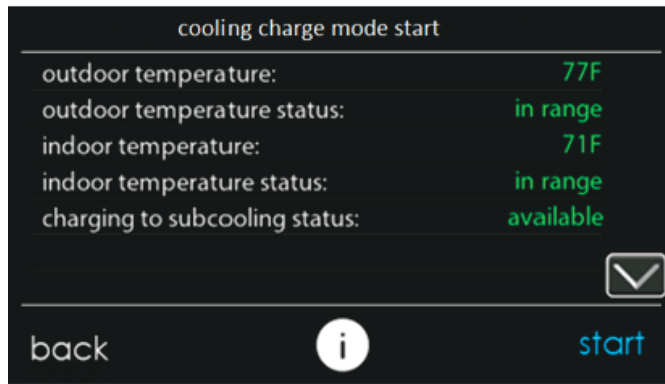
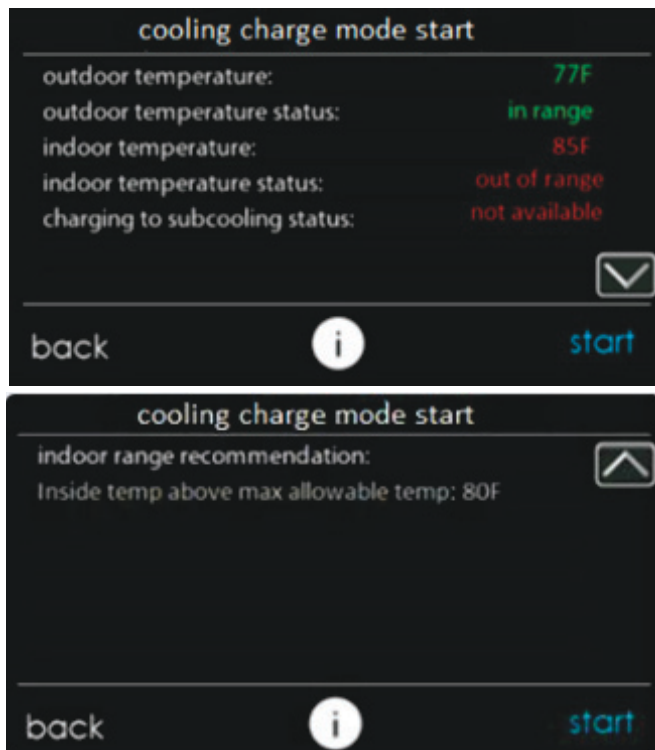

Fig. 18 – Cooling Charge Mode Start Screen - Subcooling Available A240373
Fig. 19 – Cooling Charge Mode Start Screen - Subcooling Unavailable A240385
8. The next screen, “cooling charge mode start” is shown in Fig. 18 or Fig. 19 depending on whether subcooling charging is available. The reason for unavailability of subcooling can be viewed by pressing the down arrow to go to the second page. Before selecting “Start”, verify that the service valves are open. Pressing start will turn on the system at a fixed set of operating parameters in COOLING mode.